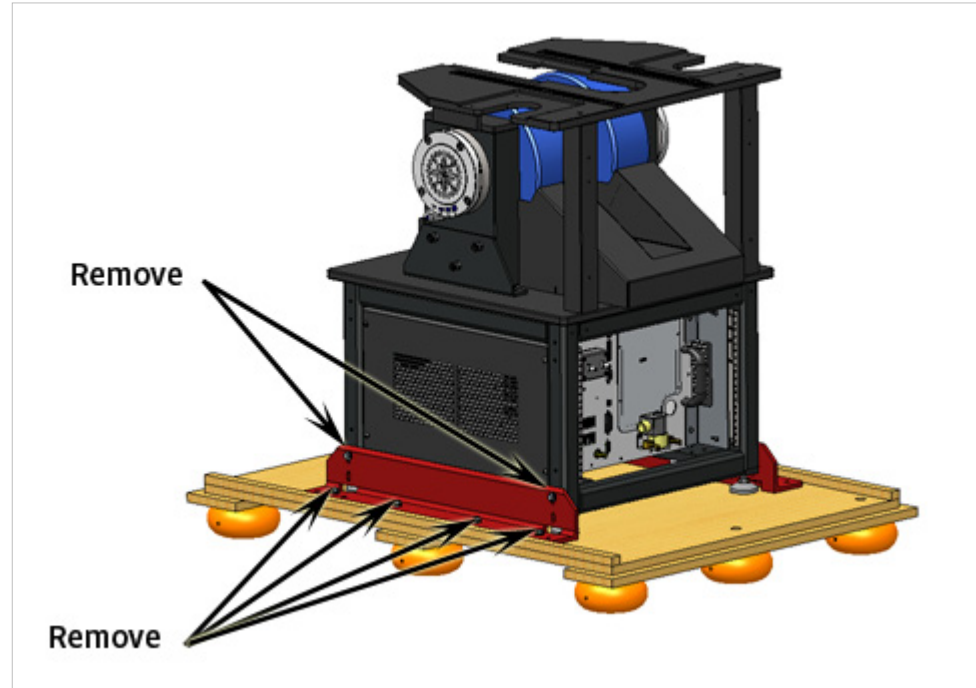

FIGURE 3-3 Remove the bolts from the lifting bracket
1. Using a 1/2 in wrench, loosen and remove the eight 5/16-18 hex head cap screws that attach the two long red horizontal lifting brackets to each side of the crate base (FIGURE 3-3).
2. Using a 13 mm wrench, loosen and remove the four M8 hex head cap screws that attach the two long red horizontal lifting brackets to each side of the measurement platform (FIGURE 3-3).